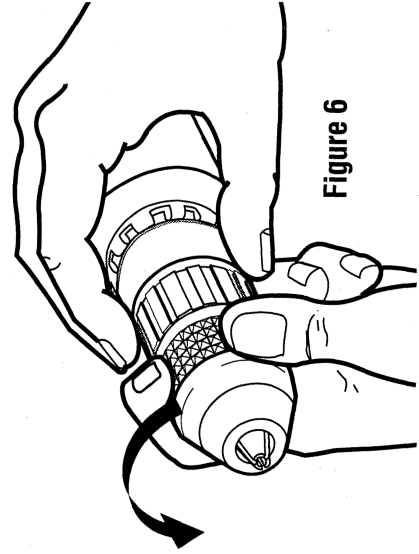

Figure 6
2. Grasp the rear half of the chuck with one hand and use your other hand to rotate the front half counterclockwise, as shown in Figure 6. Rotate far enough so that the chuck opens sufficiently to accept the desired accessory.